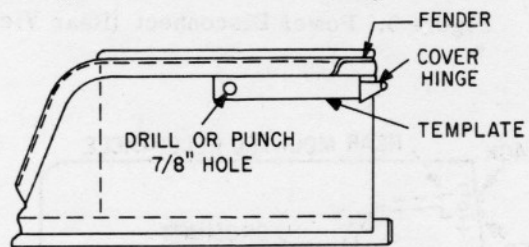

Figure 2. Battery Box (Left Side)
5. Locate and punch or drill a 7/8-inch hole in the left side of the rear battery box using the template provided as shown in Fig. 2. Remove any metal chips from inside the battery box.
**NOTE:** If the 7/8-inch hole is pre-punched as shown in Fig. 2, it may not be necessary to remove the batteries. Wires can be "fished" through the frame opening with a long, stiff, wire inserted from below the frame.